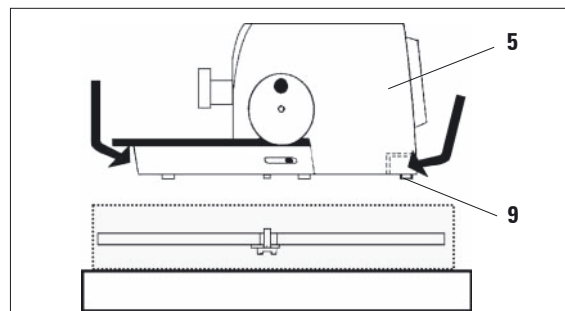

Fig. 10
- Lift the instrument (5) by holding it by the base plate and the recessed grip on the back (Fig. 10) and lift it out of the formed cushion (6).